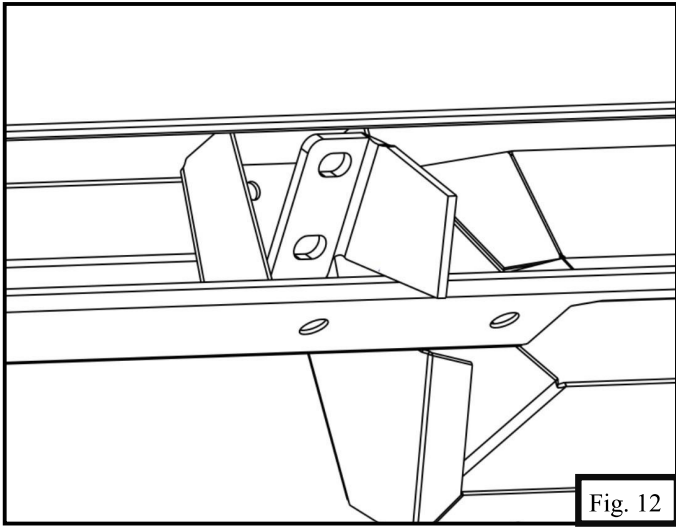

Fig. 12
12. When installing brackets to board, tilt at angle. See **Figure 12**.